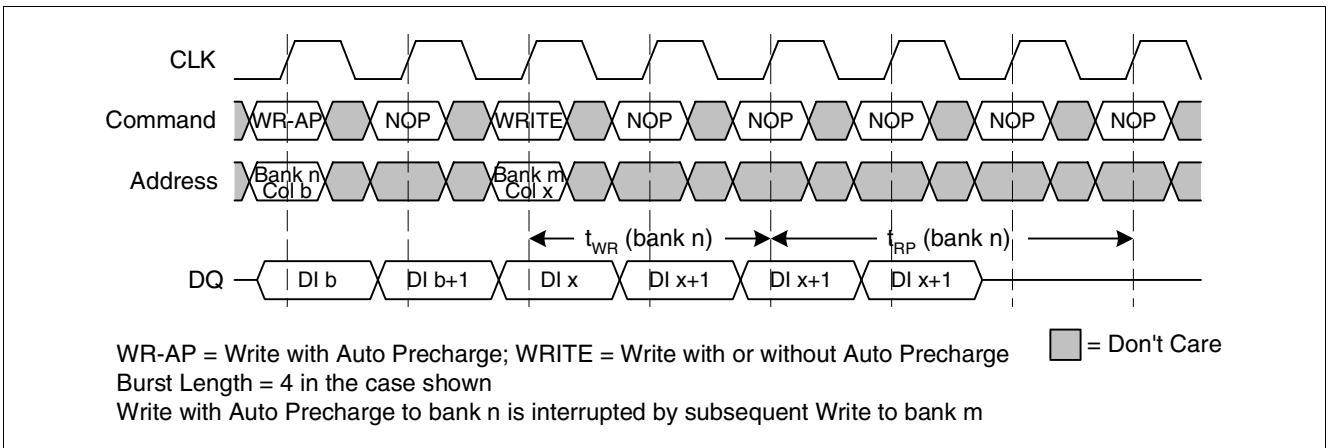

Figure 40 WRITE with Auto Precharge Interrupted by WRITE
**Figure 40** shows a WRITE with Auto Precharge to bank n, interrupted by a WRITE (with or without Auto Precharge) to bank m. The precharge to bank n will begin  $t_{WR}$  after the WRITE to bank m is registered. The last valid data-in to bank n is one clock cycle prior to the WRITE to bank m.